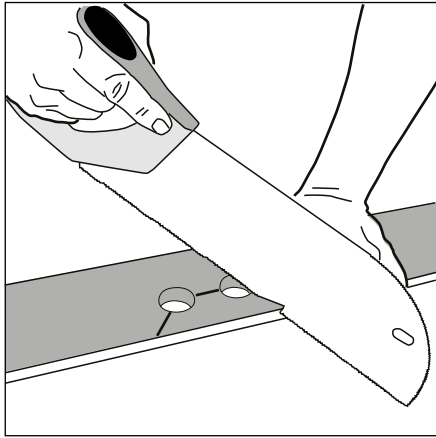

Figure 6.16 Radiator pipes
6.27.6 Radiator Pipes (Figure 6.16 & 6.17)